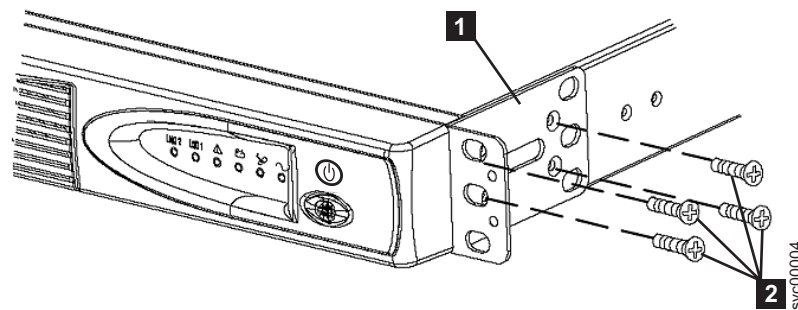

Figure 243. Installing the support rails for a 2145 UPS-1U into the rack
- Attach the long side of a mounting bracket **1** to each side of the 2145 UPS-1U using four M3 × 6 screws **2** for each bracket, as shown in Figure 243.